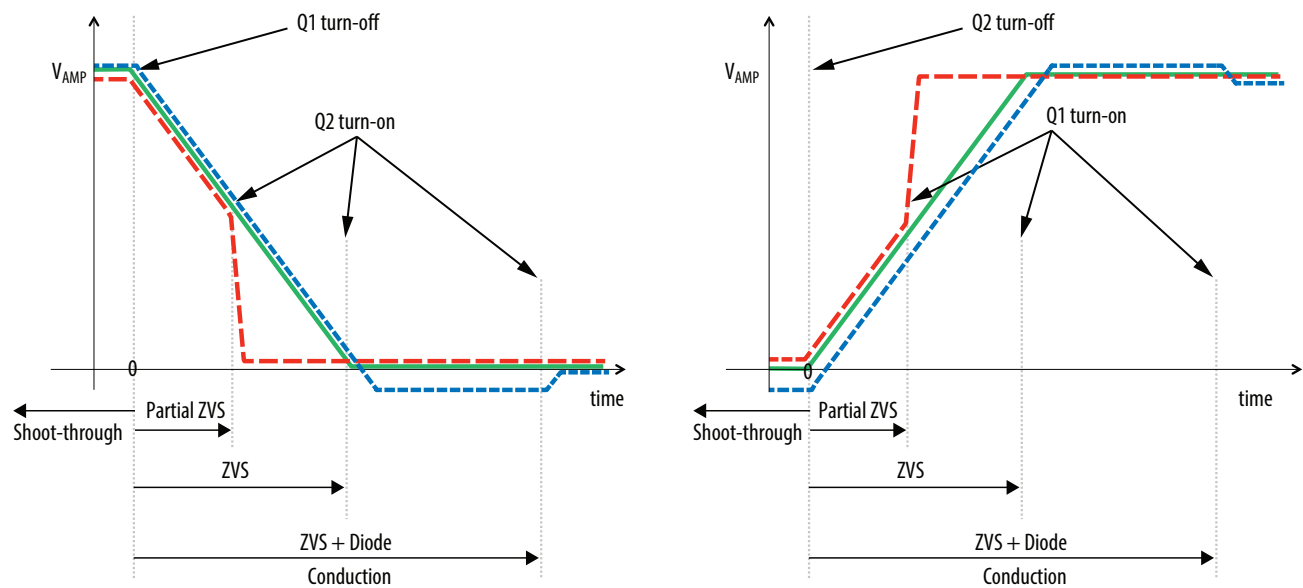

Figure 8: ZVS timing diagrams
Setting the correct time to establish ZVS transitions is critical to achieving high efficiency with the EPC9511 amplifier when operating at high frequency. This can be done by selecting the values for R71 and R72 or P71 and P72 respectively. This procedure is best performed using a potentiometer installed at the appropriate locations (P71 and P72) that is used to determine the fixed resistor values. The timing **MUST** initially be set **WITHOUT** the source coil connected to the amplifier. The timing diagrams are given in figure 8 and should be referenced when following this procedure. Only perform these steps if changes have been made to the board as it is shipped preset. The steps are:
6. While observing the oscilloscope, adjust the applicable potentiometers to achieve the green waveform of figure 8.